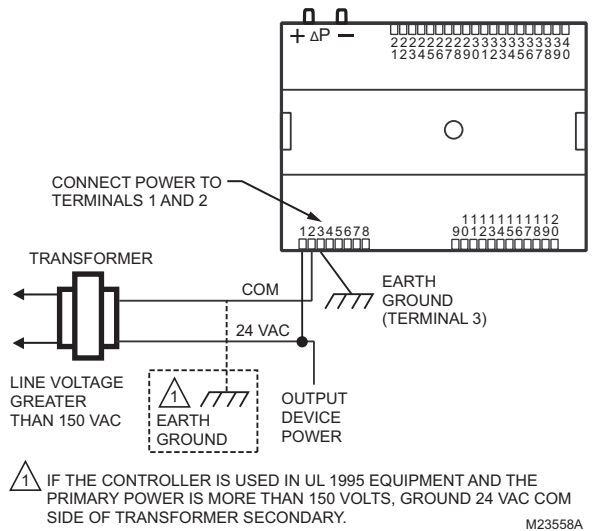

Fig. 12. Transformer power wiring details for one controller used in UL 1995 equipment (U.S. only).
- If a controller is used on Heating and Cooling Equipment (UL 1995, U.S. only) and transformer primary power is more than 150 volts, connect the transformer secondary common to earth ground (see Fig. 12 on page 10).
- See Fig. 12 on page 10 for controller power wiring used in UL 1995 equipment (U.S. only).
*If the controller is used on **Heating and Cooling Equipment (UL 1995, U.S. only)** and the transformer primary power is more than 150 volts, connect terminal 2, (the 24 Vac common [24 VAC COM] terminal) to earth ground (see Fig. 12). For these applications, only one controller can be powered by each transformer.*